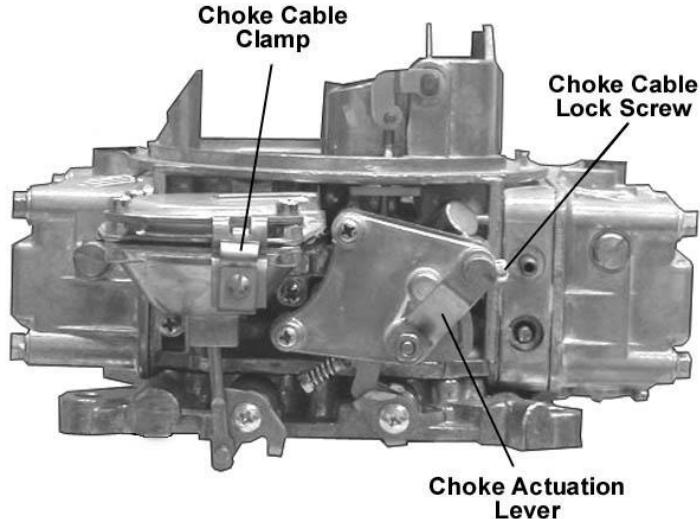

**Figure 1—Carburetor torque sequence (all Holley® carburetors)**
3. Place the carburetor on top of the flange gasket on the manifold. Install the hold down nuts and snug down progressively in a "crisscross" pattern (60-80 in./lbs.), as shown in Figure 1.